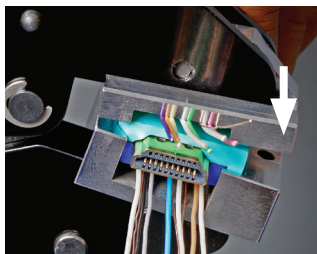
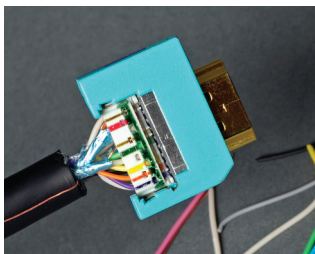
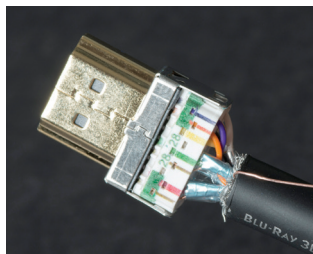

Figure 21.
Figure 22.
Figure 23.
Step 8 To crimp, insert the connector end into the crimp tool, and tighten until the two ends come together (Fig. 21). You will hear them click. The excess wires will cut off (Fig 22). Remove the termination blocks (Fig. 23).